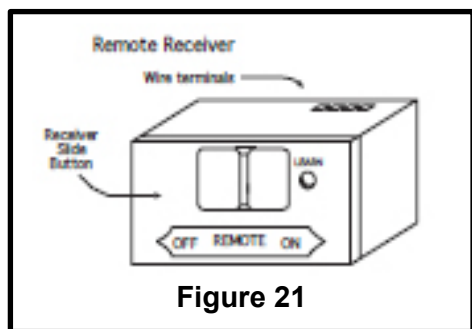

Figure 21
1. Slide the function button on the receiver to the REMOTE position (Figure 21).